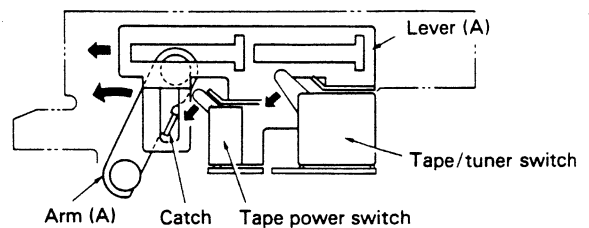

Fig. 14
3. As arm (A) moves in the manner described at Paragraphs 1 and 2 above, a catch on that arm moves lever (A) in the direction indicated by the arrow in Figure 14, activating the switches as indicated.